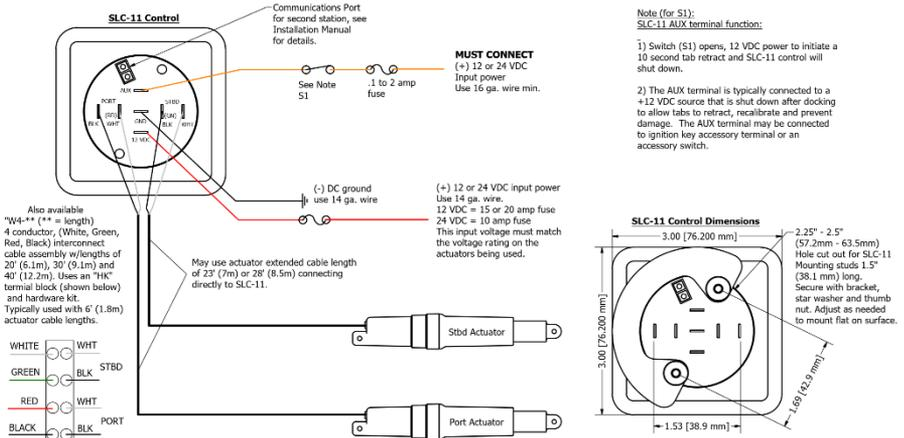

Fig. 5
2. If the W4-*** cable is used to connect the switch to actuators, route the cut cable end from the control switch to the transom terminal strip. The push-on terminal end of the 20' (6.1m), 4-conductor, 14 AWG (2.08mm sq.) cable connects to the control switch (KA Kits), or route the longer 23' (7m) actuator cable directly to the control switch (XKA Kits). Connect cable to switch as shown in Fig. 5.
3. Connect a fused 12vdc or 24vdc power source as shown in Fig. 5. **Power source voltage must match the actuator voltage.** The AUX terminal on the control **MUST** be connected to a switched +12 or 24vdc source such as an ignition key switch or auxiliary panel switch. When the key switch is turned off, the tabs automatically retract.